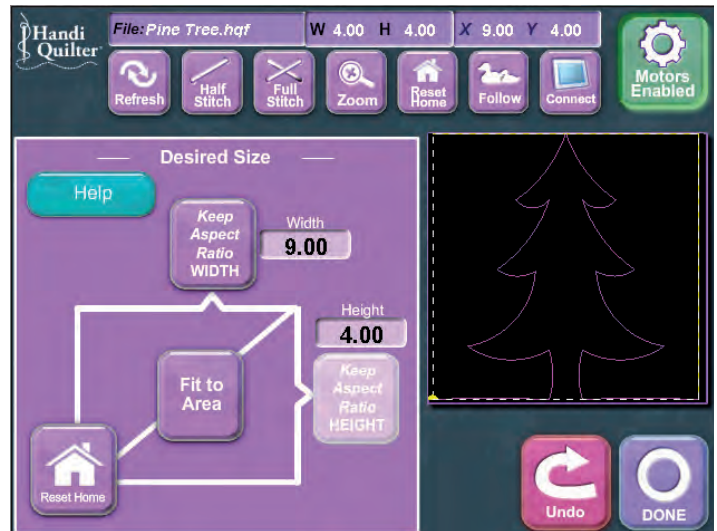

Figure 13
2. Press the “Keep Aspect Height” button and the HQ Pro-Stitcher will calculate the width required to maintain the current aspect ratio based upon the new height entered (Figure 13).